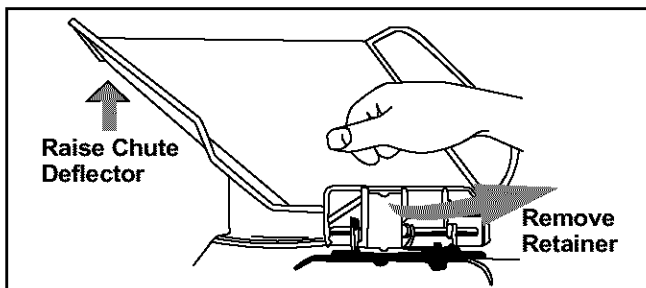

Figure 4
- Lift the chute deflector up and towards the engine. Holding the deflector in this position, remove the retainer. See Figure 4.